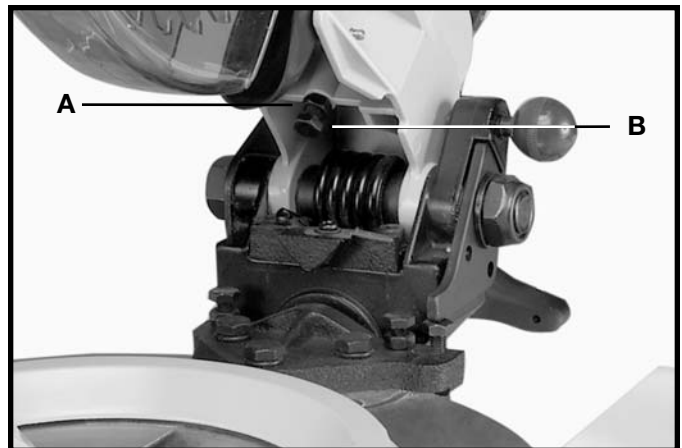

Fig. 28
2. The downward travel of the saw blade should be limited to prevent the saw blade from contacting metal surfaces on the machine. Make this adjustment by loosening the locknut (A) Fig. 28 and turning the adjusting screw (B) in or out. **NOTE: The bevel cover has been removed in Fig. 28 for clarity.**
4. After the downward travel of the saw blade has been adjusted, tighten locknut (A) Fig. 28.